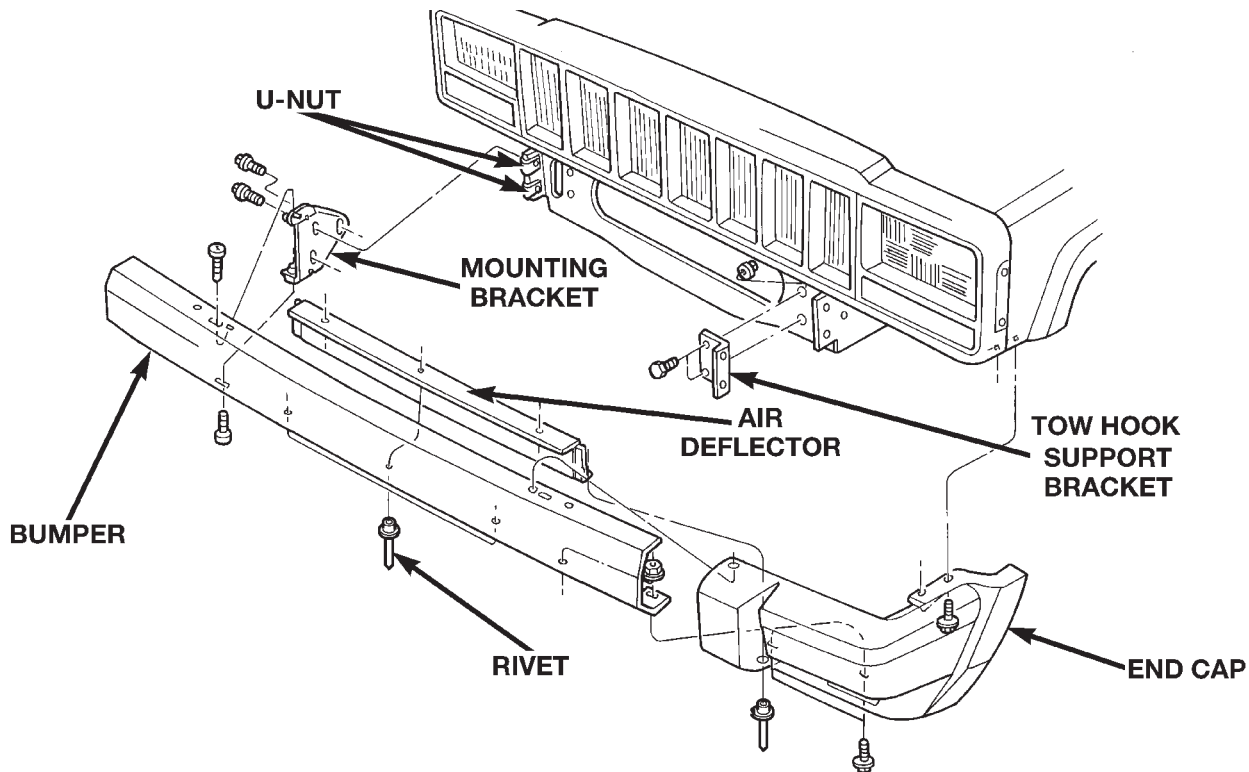
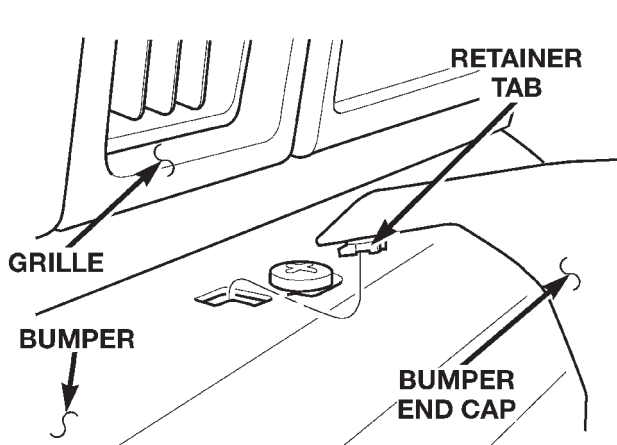

Fig. 1 Front Bumper
Fig. 2 Bumper End Cap
- (1) Remove the rivet attaching the end cap to the air deflector.
- (2) Remove the bolts and nuts attaching the end cap to the bumper (Fig. 1).
- (3) Pull back the wheelhouse liner and remove the screws attaching the end cap to the front fender.
- (4) Lifting the end cap from the bottom, tilt slightly upward and slide it outward to disengage the retainer tab from the bumper (Fig. 2).
- (5) Separate the end cap from the bumper.
- (4) Remove Torx-head bolts that attach bumper to mounting brackets (Fig. 1).
- (5) Remove bumper from vehicle.
- (6) If necessary, remove bolts attaching bumper mounting brackets to frame.